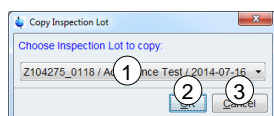
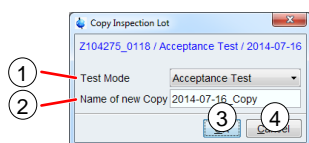

Figure 5-11: Copy Inspection Lot – source
Figure 5-12: Copy Inspection Lot – target
- (1) Select an existing Inspection Lot to copy from the list (Figure 5-11 (1)).
- (2) Click **OK** (Figure 5-11 (2)) to continue copy process. The subsequent dialog shown in Figure 5-12 opens.
- (3) Click **Cancel** (Figure 5-11 (3)) to abort copying an Inspection Lot.
- (1) **Test Mode**
Select the **Test Mode** (Figure 5-12 (1)) for the copy.
- (2) **Name of new Copy**
Enter an individual **Name of new Copy** (Figure 5-12 (2)) (see chapter 2.2, **permitted characters**). The old name labeled as Copy is suggested as a default (see Figure 5-12).
- (3) Click **OK** (Figure 5-12 (3)) to finish the copy process. The new Inspection Lot opens in the **Workspace** of **NMRPT main window**.
- (4) Click **Cancel** (Figure 5-12 (4)) to abort copying the Inspection Lot.